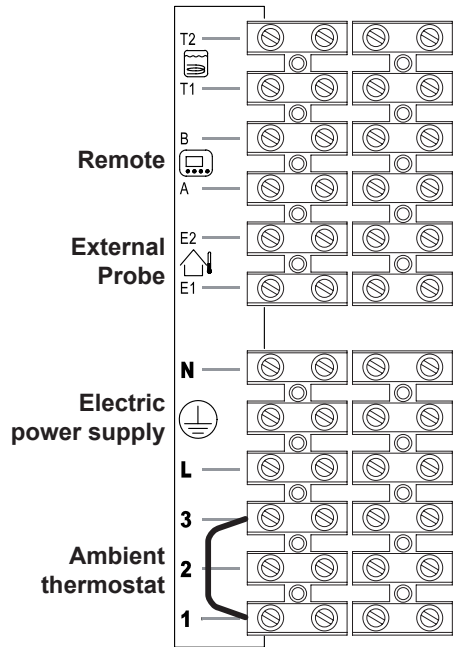

Fig. 6.17
- Connect the electric power supply cable coming from the fused spur isolation switch to the power supply terminal block of the boiler Fig. 6.17 keeping the same connections for the live (brown wire) and the neutral (blue wire). External 3A fuse or fused plug with same current rating is recommended.
Use the clamps indicated in Fig. 6.17 to connect the ambient thermostat.
Use the ambient thermostat's clamps indicated in Fig. 6.17 and Fig. 6.18 to connect the zone valve. Insert the electric cables of the zone valve's micro switch contacts in clamps "1 and 3" of the ambient thermostat's terminal block as in Fig. 6.18.